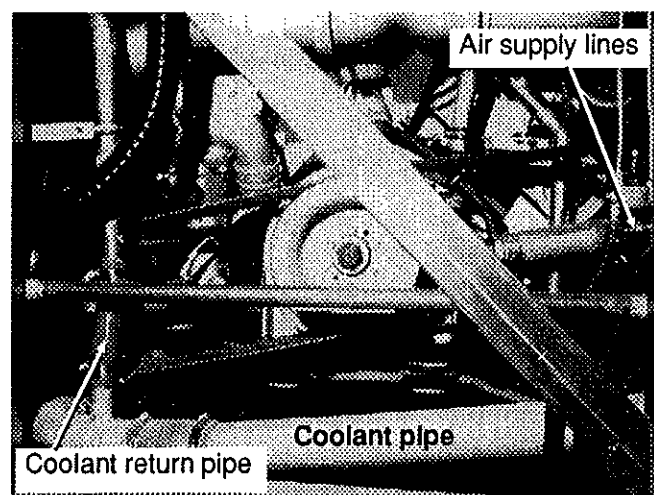
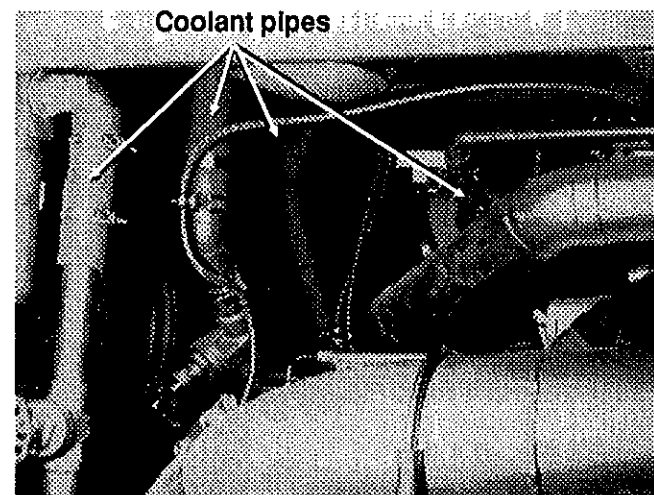

FIG. 8
FIG. 9
25. From access in front of engine, disconnect both air supply lines leading to the belt tensionner air cylinders (see fig. 8).
26. Disconnect the coolant return pipe located in front of engine (see fig. 8).
27. Disconnect the section of the coolant pipe between the transmission oil cooler and the next connection (see fig. 8); remove the fasteners holding the coolant pipe bracket to the engine cradle, then remove the pipe.
29. Open the second and third R.H. side baggage compartment doors, unscrew 1/4 of a turn the five (5) retaining screws of the engine access panel, then open and hold panel with the provided hook.
31. Disconnect the four (4) coolant pipes as illustrated in figure 9.